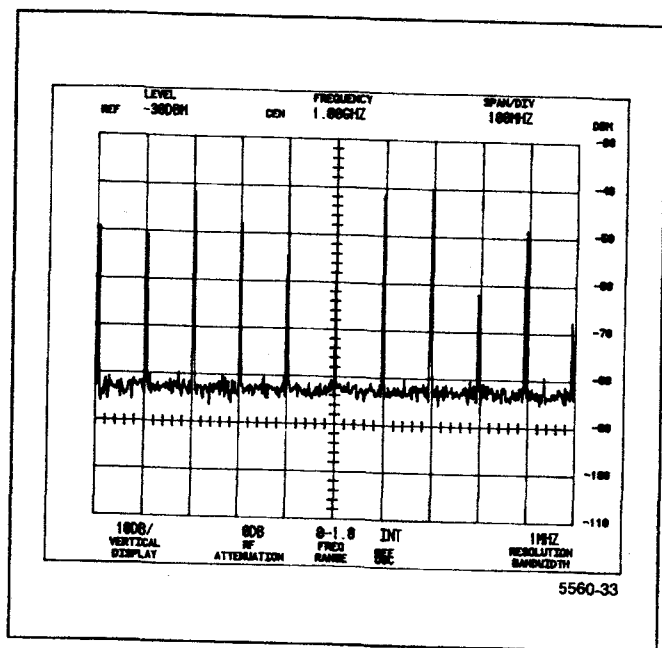

Figure 4-6. Typical marker display for measuring Span/Div accuracy.
b. Apply the CAL OUT signal to the RF INPUT and set the CENTER FREQUENCY to align the 100 MHz markers so the 100 MHz/div accuracy can be measured over the center eight divisions of the display. It may be necessary to change the REF LEVEL to obtain adequate marker amplitude. Maximum deviation (see Figure 4-6) must not exceed 5 MHz/Div.